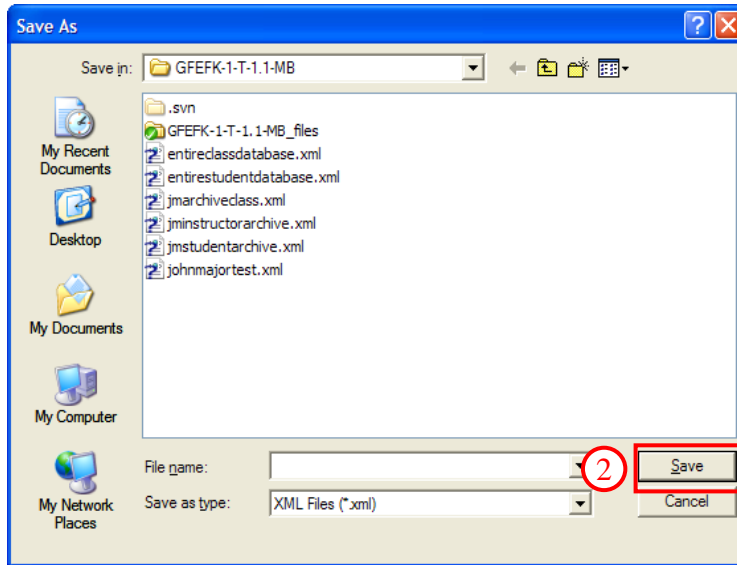

Figure 42. Archive, Save As Dialog
2. A *Save As* dialog is displayed (Figure 42).